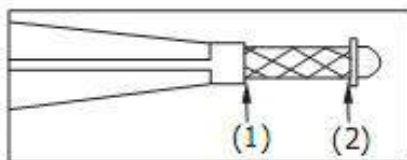

Fig. 1
5. Check that the oil level is within the (1) & (2) hash-marks on the dip stick as in Fig. 1
6. If the oil level is at or near the upper mark (1), you do not need to add oil.
7. If the oil level is at or near the lower mark (2), you need to add oil.
8. Add the recommended oil until the upper mark (1), is reached. (**DO NOT OVERFILL**)